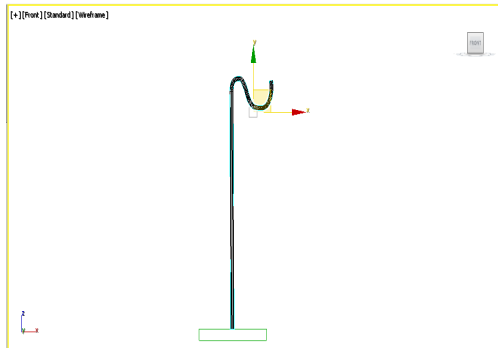

Figure 5-27 The thickness added to pillar
7. Make sure the **Radial** radio button is selected and set the value **0.15** in the **Thickness** spinner; the thickness is added to *pillar*, as shown in Figure 5-27.